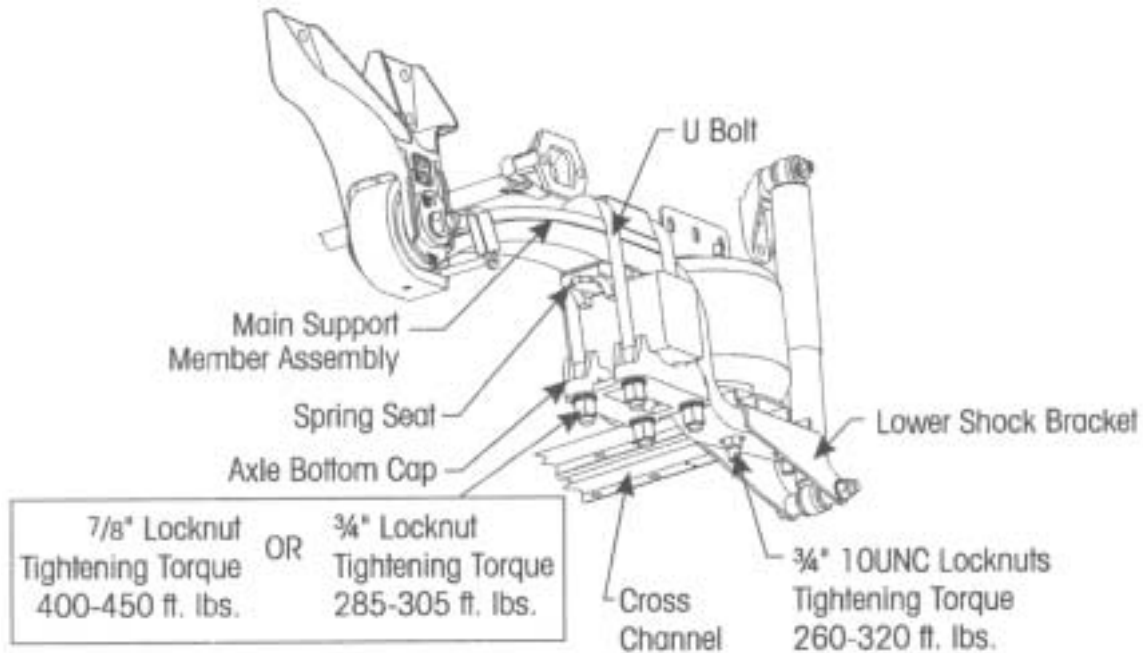

Figure 7.9
4. Remove the U bolt locknut and washer. See **Figure 7.9**.